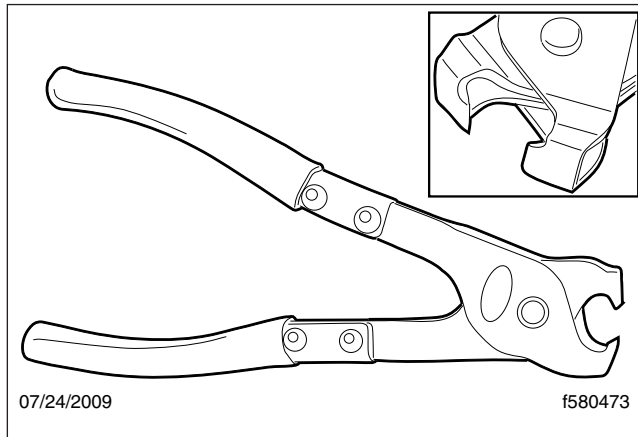
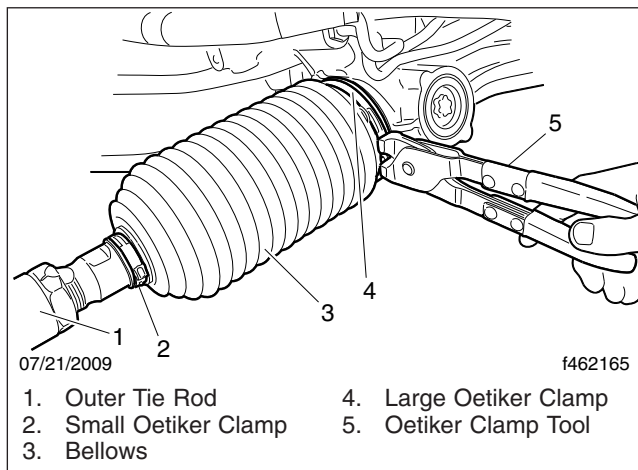
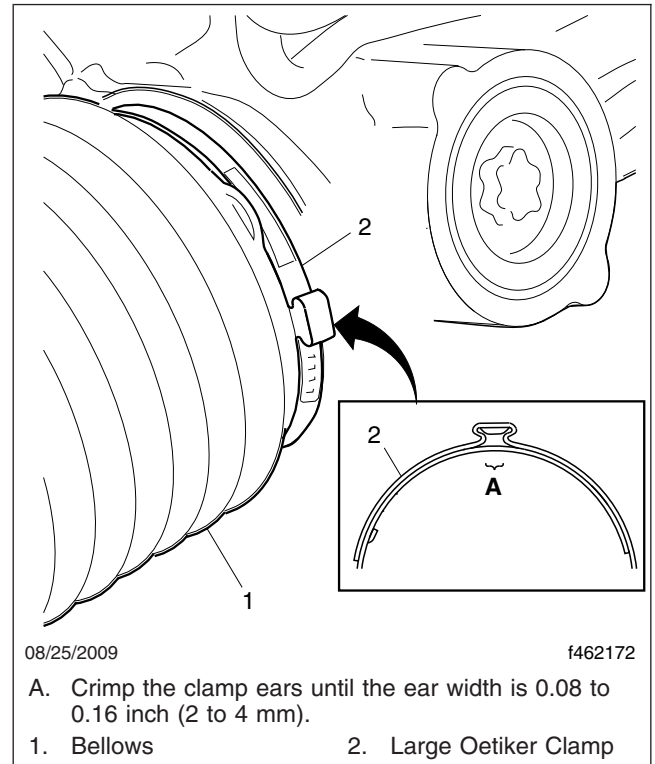

Fig. 8, Oetiker Clamp Tool, P/N 14100037 or 14100082
Fig. 9, Oetiker Clamp Installation
Fig. 10, Oetiker Clamp Ear Width
- 14.3 Using an Oetiker clamp tool like the one shown in Fig. 8, crimp the small and large Oetiker bellows clamp ears until the ear width is 0.08 to 0.16 in (2 to 4 mm). See Fig. 9 and Fig. 10.